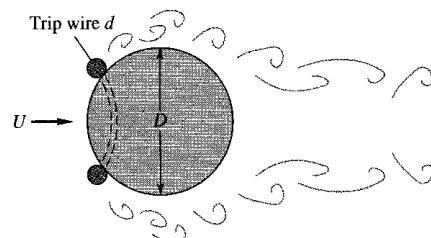

Fig. P6.5
**6.5** In flow past a body or wall, early transition to turbulence can be induced by placing a trip wire on the wall across the flow, as in Fig. P6.5. If the trip wire in Fig. P6.5 is placed where the local velocity is  $U$ , it will trigger turbulence if  $Ud/\nu = 850$ , where  $d$  is the wire diameter [Ref. 3 of Ch. 6]. If the sphere diameter is 20 cm and transition is observed at  $\text{Re}_D = 90,000$ , what is the diameter of the trip wire in mm?